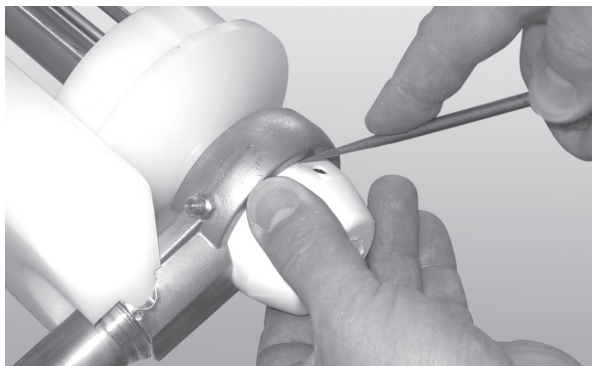

Figure 66
3. Remove the bearing cover (**Figure 66, item 1**).